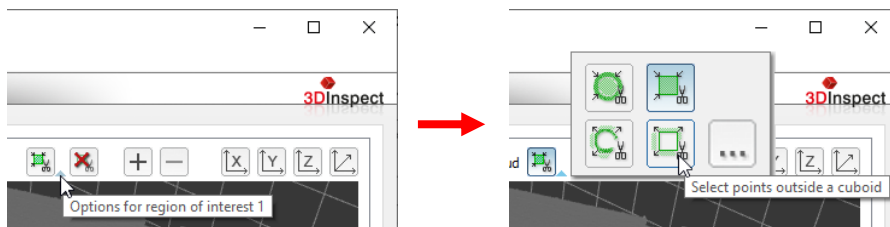

Fig. 3.59: "Region of interest options" context menu (Cuboid/Cylinder, Use points inside/outside the ROI)
- Open the "Region of interest options" context menu. Click on the corresponding icon to the right of the "Set region of interest" button (see Fig. 3.59).
- Select the desired type and mode from the context menu (see Fig. 3.59).
- Open the context menu for the desired ROI (see above, Fig. 3.59).